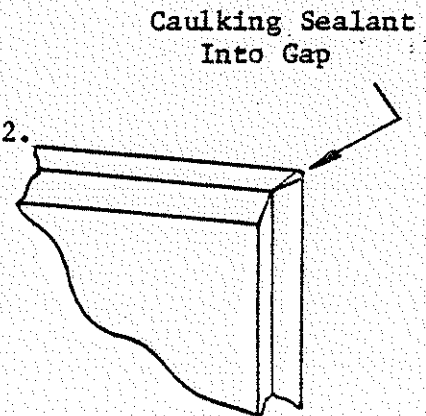

Figure 4
5. At door corners, use caulking compound to fill up gap as shown in Fig. 4.